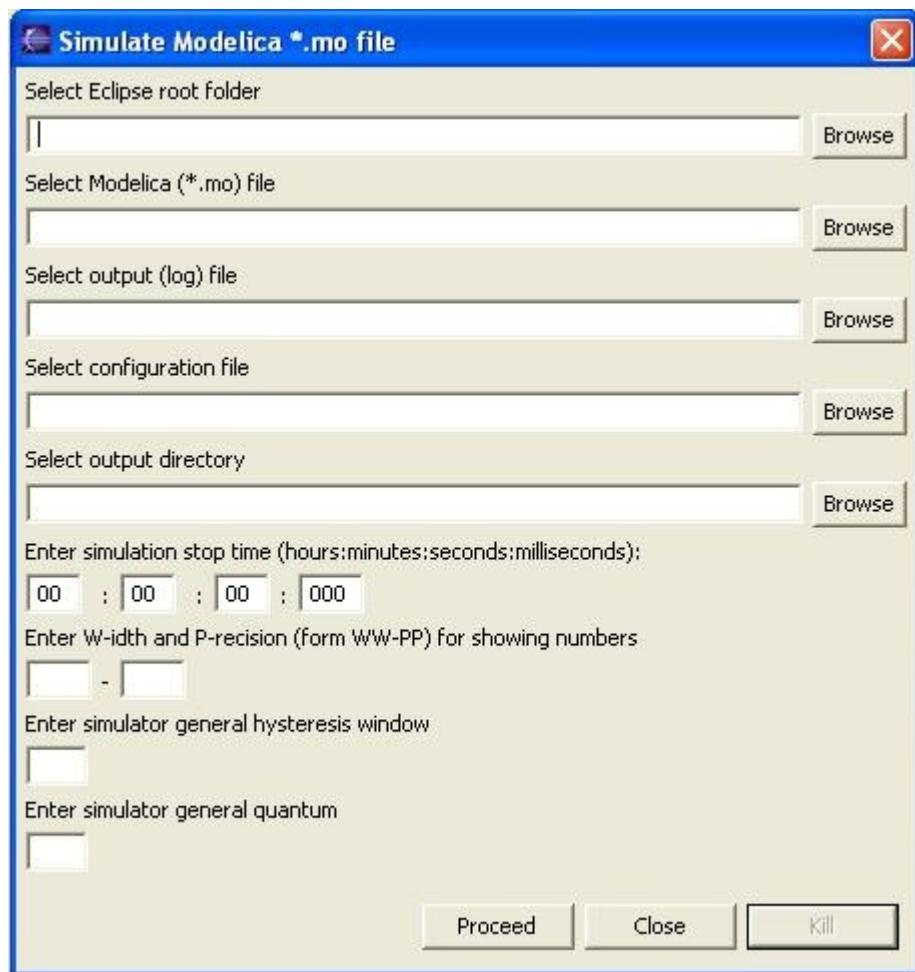

Figure 124: The SimuModelica dialog box
4. After this click the SimuModelica button (), which gives the GUI dialog box given in Figure 124.